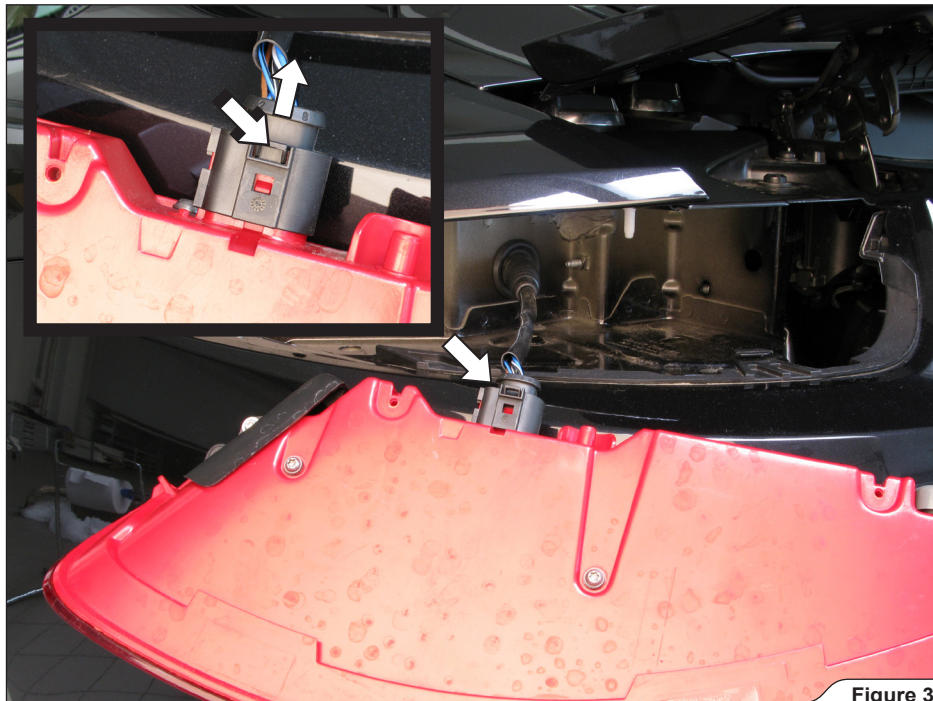

Figure 3
- Carefully remove both tail lights, disconnect the connectors and remove both tail lights off the vehicle (**Figure 3**).